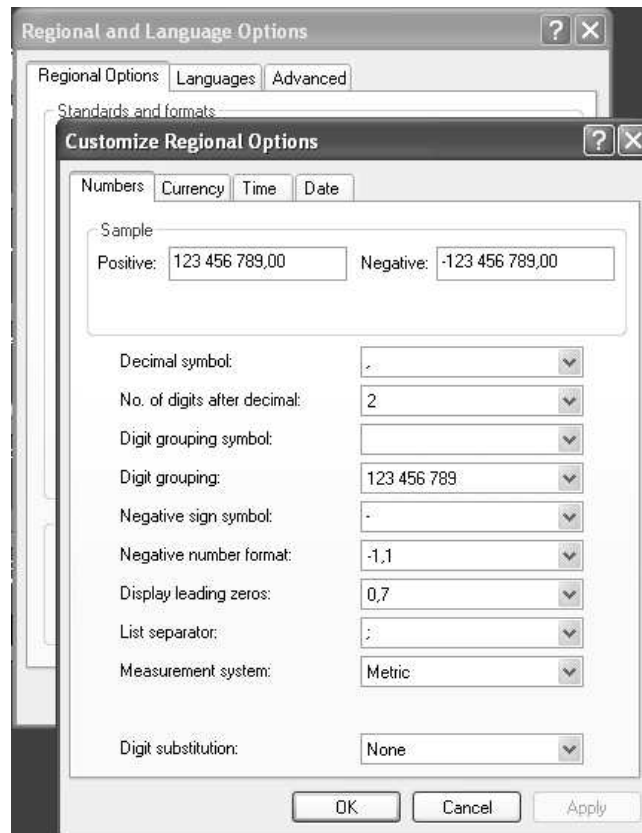

Figure 32. Regional and Language Options Window, Regional Options Tab: Customize Regional Options Dialog
- Click on the **Customize** button in the Regional Options tab of the Regional Language Options pop-up window. See Figure 32.